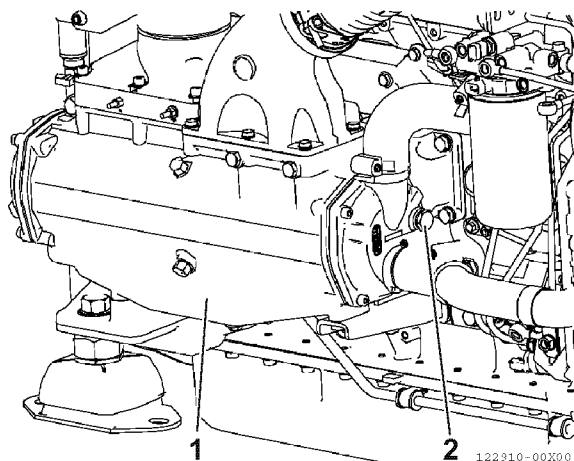

Figure 4
1. Remove the zinc anode (**Figure 4, (2)**) by unscrewing it from the seawater / air heat exchanger (**Figure 4, (1)**).
2. Check the level of corrosion of the zinc anode (**Figure 4, (2)**); if the corrosion exceeds 50% of the volume, replace it.
Insert the zinc anode (**Figure 4, (2)**) into the seawater / air heat exchanger (**Figure 4, (1)**) and tighten it to a torque of 30 +/- 3 N·m.